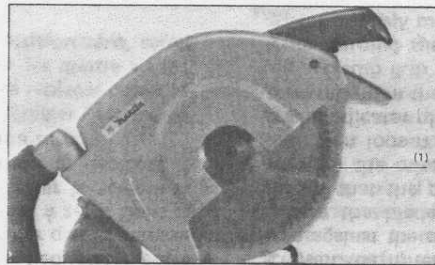

Fig. 6
- Vérifier si le carter de protection fonctionne parfaitement Fig. 6
| ● Does the safety cover operate smoothly when you raise and lower the head with the operating handle? | Fig. 6 |